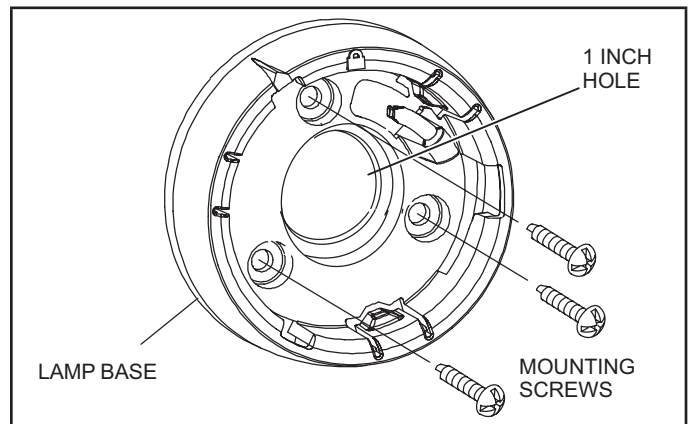

FIGURE 7. Install Lamp Base
- 1 - Separate the lamp base from the lamp holder. Place the lamp base on the mounting surface and attach with three provided #6-20 x 1/2" sheet metal screws (see figure 7).